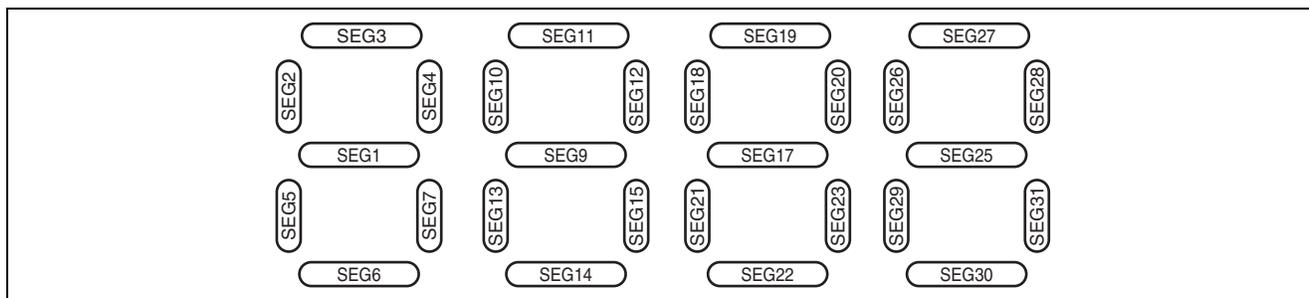

Figure 2.2 Correspondence between Segment Signals and Segments on the 4-Digit 7-Segment LCD Used in this Sample Task
4. In this sample task, a 4-digit 7-segment LCD is driven by static driving. Figure 2.2 is a diagram showing the correspondence between segment signals and segments of the 4-digit 7-segment LCD used in this sample task.